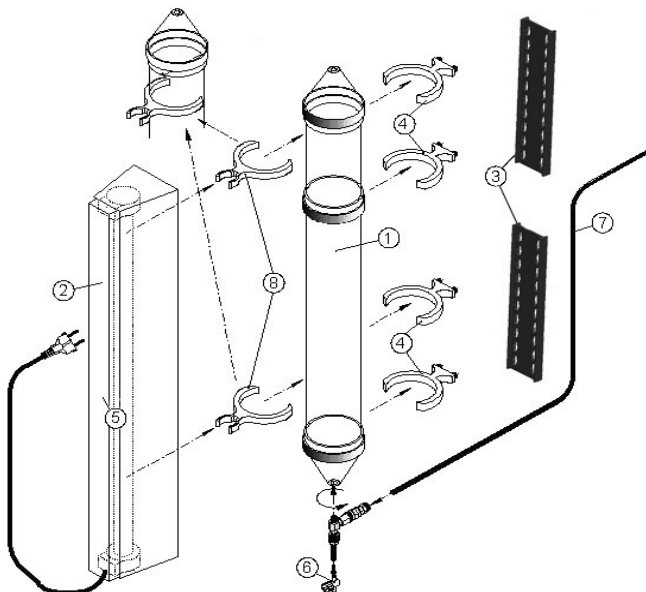

Fig. 1: plankton light reactor
9. 4 x screw and wall plug (not shown in Fig. 1)